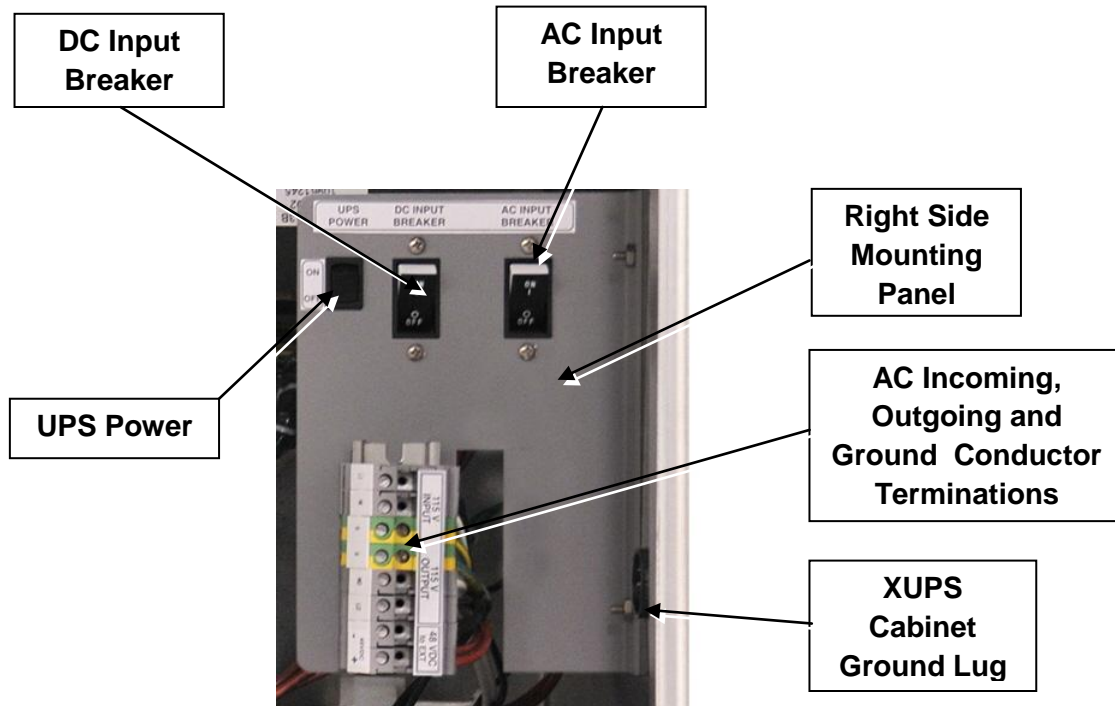

Figure 14: Incoming & Outgoing Wire Terminations
- 4.15** Strip approximately 3/8" (9.52 mm) insulation from the end of each of the six (6) incoming / outgoing AC wires and terminate them in the wiring terminals located on the right side of the cabinet (see Figure 14).
- 4.16** Terminate the incoming wires on the terminals marked as shown in Figure 14 and as follows:
- 4.17** Terminate the outgoing wires on the terminals marked as shown in Figure 14 and as follows:
- 4.21** Turn on the AC, 15 A, 120 V service by putting the **AC INPUT BREAKER** to the **ON** position (see Figure 14).